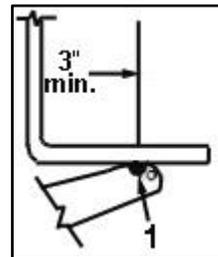

Fig. 6: Using serrated lift pad
- If no structural component exists and one cannot be created, flip the serrated lift pad into an upward position and choose a lift point at least 3" inward toward the center of the vehicle on a flat surface (see Fig. 6).